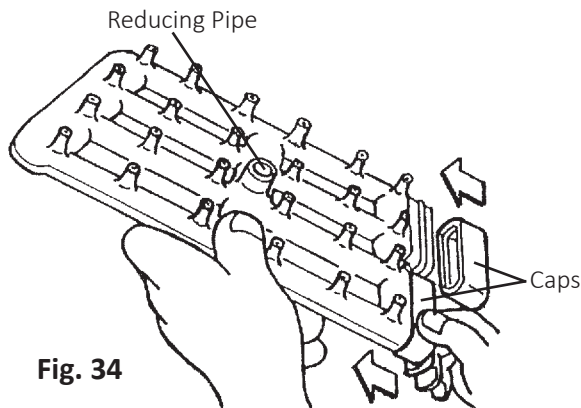

Fig. 34
- 11) Refit the 2 caps in their correct positions. Make sure the reducing pipe is in place in the center. See Fig. 34.